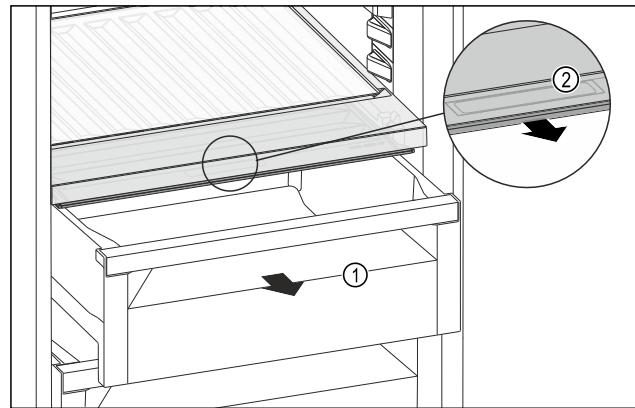

Fig. 88
- ▶ Pull out the drawer Fig. 88 (1).
- ▶ Grasp the recessed grip Fig. 88 (2) on the compartment lid and pull the compartment lid forwards at the same time.